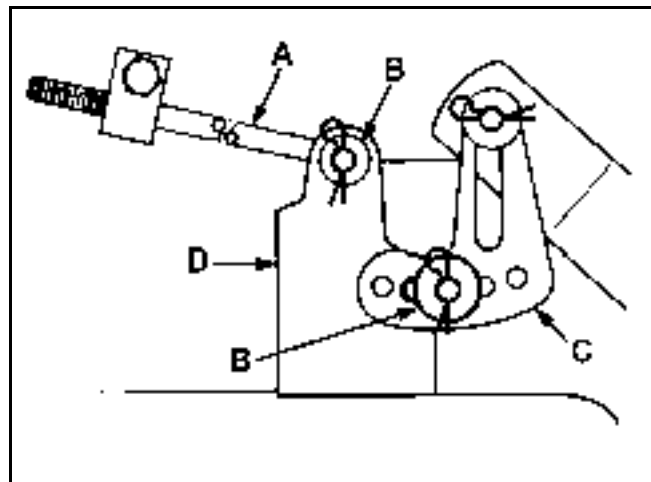

Figure 202
7. Slide the end of the long rod through the hole in the mower mount (Figure 202). Install the washer and hairpin cotter to secure the rod in place. Repeat this step on the opposite side of the mower.
8. Mount the slotted mower leveling bracket onto the pin on the height-of-cut arm (Figure 202). Install the washer and hairpin cotter to secure the mower. Repeat this step on the opposite side of the mower.